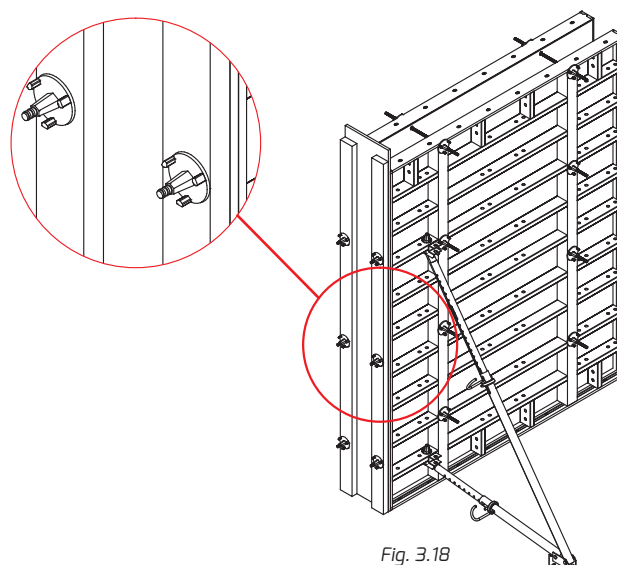

Fig. 3.18
- by using only the centring bowstrings and plywood, and timber (fig. 3.18);